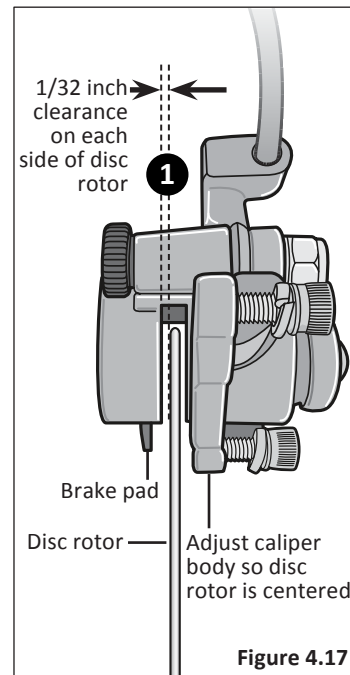

Figure 4.17
- 1 Using a 5 mm Allen wrench, loosen the two centering adjustment screws. Adjust the caliper body until the gap between the disc rotor and the brake pads in the caliper body is even ($1/32$ " per side). **Figure 4.17**